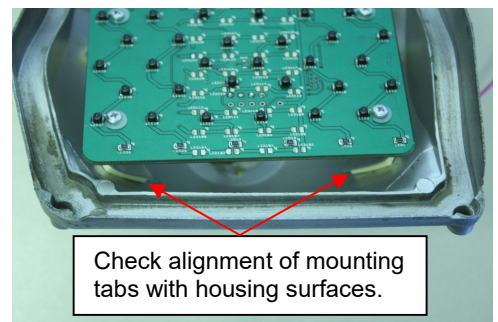

Figure 5
- 4.4. While holding the panel centered in housing and pressing mounting tabs against housing's inner face, inspect the alignment of the mounting tab's foam tape surface with the housing surface. (See Figure 5) If the foam does not have intimate contact along the mating surface, then adjust the bend of the tabs so all are establishing good contact.